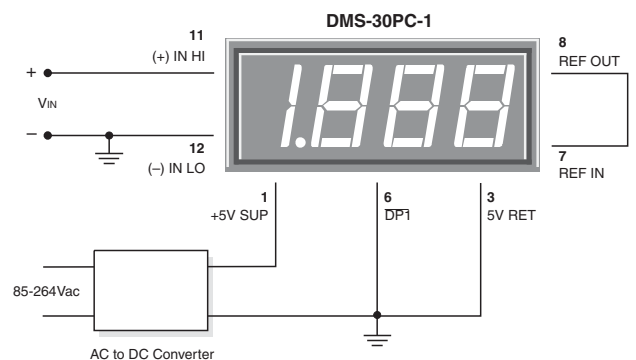

Figure 2. Single-Ended Input Configuration
**1. Single-Ended Input Configurations:** True single-ended measurements can be made with any DMS-30PC meter. The circuit of Figure 2 avoids problems normally associated with ground-loop currents. Separate ground runs should be used for 5V RETURN (pin 3) and (-) INPUT LO (pin 12). This will ensure that large LED currents will not flow in the wiring that connects VIN to (-) INPUT LO (pin 12). Ground-loop currents can cause unstable readings.